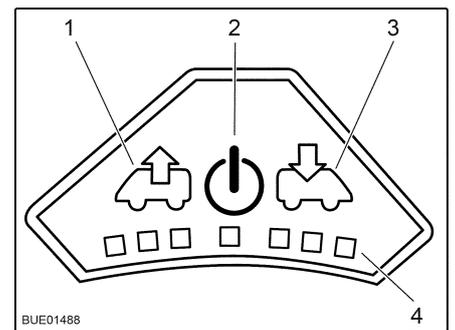

Fig. 50 Control panel for fan
- Press the On/Off button (Fig. 50,2). The fan runs in comfort mode (venting at slowest fan speed).
- To increase the fan speed: Press the Vent button (Fig. 50,1). The fan speed in the venting direction increases by one level. LEDs (Fig. 50,4) show the operating levels.
- To lower the fan speed: Press the Aerate button (Fig. 50,3). The fan speed decreases by one level.
- To increase the fan speed: Press the Aerate button (Fig. 50,3). The fan speed in the aerating direction increases by one step. LEDs (Fig. 50,4) show the operating levels.
- To lower the fan speed: Press the Vent button (Fig. 50,1). The fan speed decreases by one level.
- Press the On/Off button (Fig. 50,2). The fan stops, the LEDs go out.